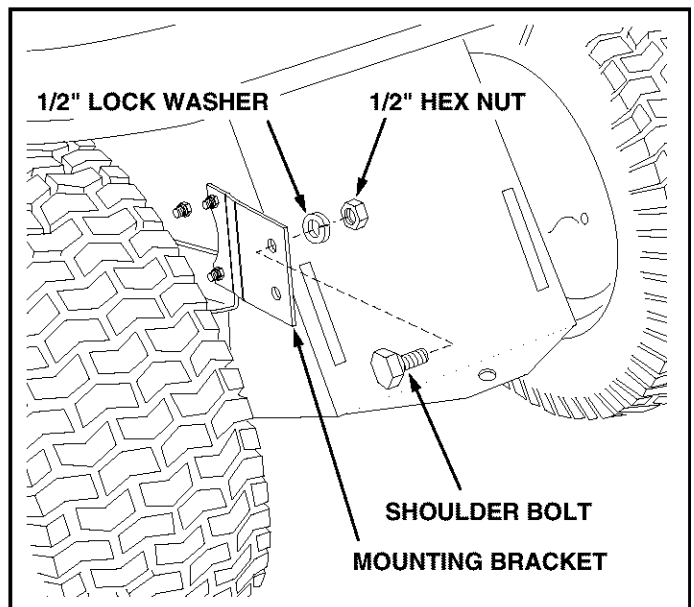

FIGURE 3
- Assemble a shoulder bolt to each mounting bracket using a 1/2" lock washer and 1/2" hex nut. See figure 3.